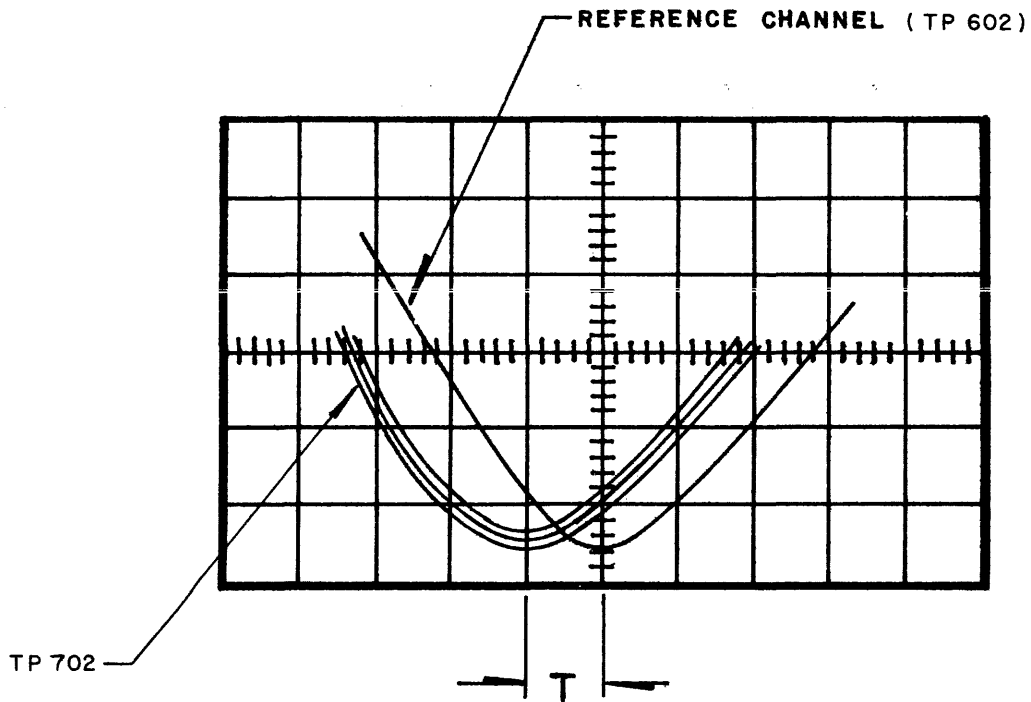

Figure 45. Read Head Signal Peaks, Dual Gap Systems
4. Load a master skew alignment tape, making sure that the write enable ring is removed. Place the tape controller unit in a read mode and observe the time displacement between the read signal peaks (see Figure 45). If the time displacement corresponds to a distance less than 25 micro-inches (1  $\mu$ sec at 25 ips), no shimming is required: